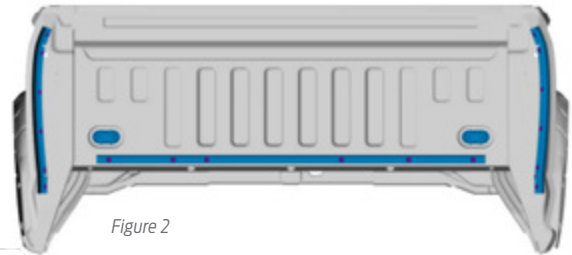

Figure 2
5. Install the pickup bed seals and plugs. See [Figure 2]